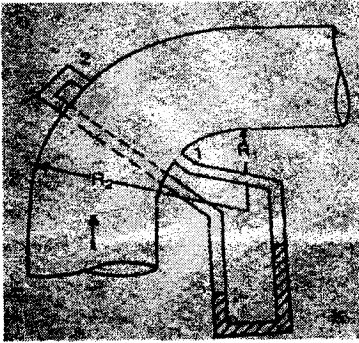

Figure 6
- IV. (a) The flow in a pipe of 100 mm diameter with Reynolds number value of 10^5 is found to have a friction factor $f = 0.032$. Determine the thickness of laminar sub layer. Also indicate whether the pipe is hydraulically smooth or not, if the roughness height is 0.4 mm. (5)
- (b) A pipe bend to 90° with moderate value of centerline bend radius (R_0) to pipe diameter (D) ratio, is used as a flow measuring device, by relating Q to pressure difference between outside (at R_2 radius) and inside (at R_1 radius) of the bend as shown in figure 6. Assume that the fluid flows at a constant velocity around the bend. Determine the discharge coefficient C_d of the measuring device. (5)